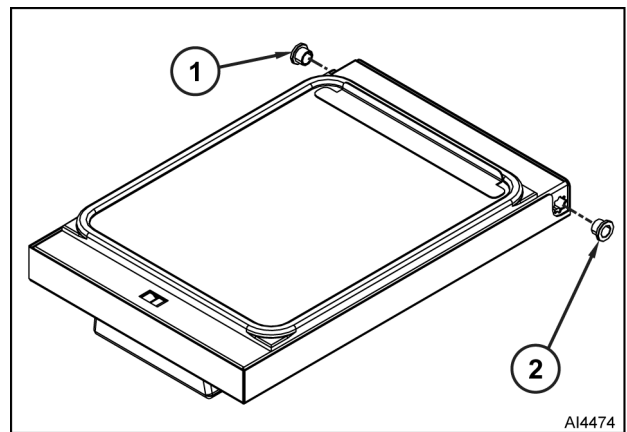

Fig. 18
4. Pry top (1, Fig. 18) and bottom (2) hinge bearings from door assembly.